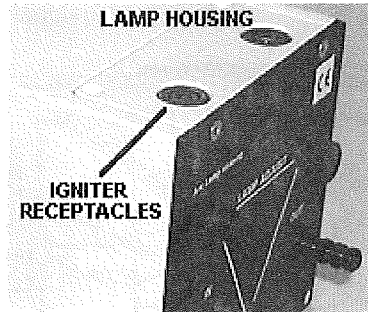

Figure 7 - Lamp Housing Igniter Receptacles
2. Place the lamp igniter on top of the lamp housing such that the red and black shielded plugs on the bottom of the igniter fit into the same colored sockets on the lamp housing (see figure 7).